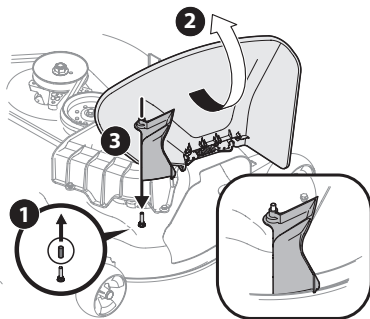

Figure 19
2. Remove the deck pin rubber protective cap, 1 in Figure 19.
3. Raise the chute deflector (2 in Figure 19) on the deck and hold it while you install the chute adapter (731-10133) (3), included in hardware pack 689-02364, onto the deck as shown in Figure 19.